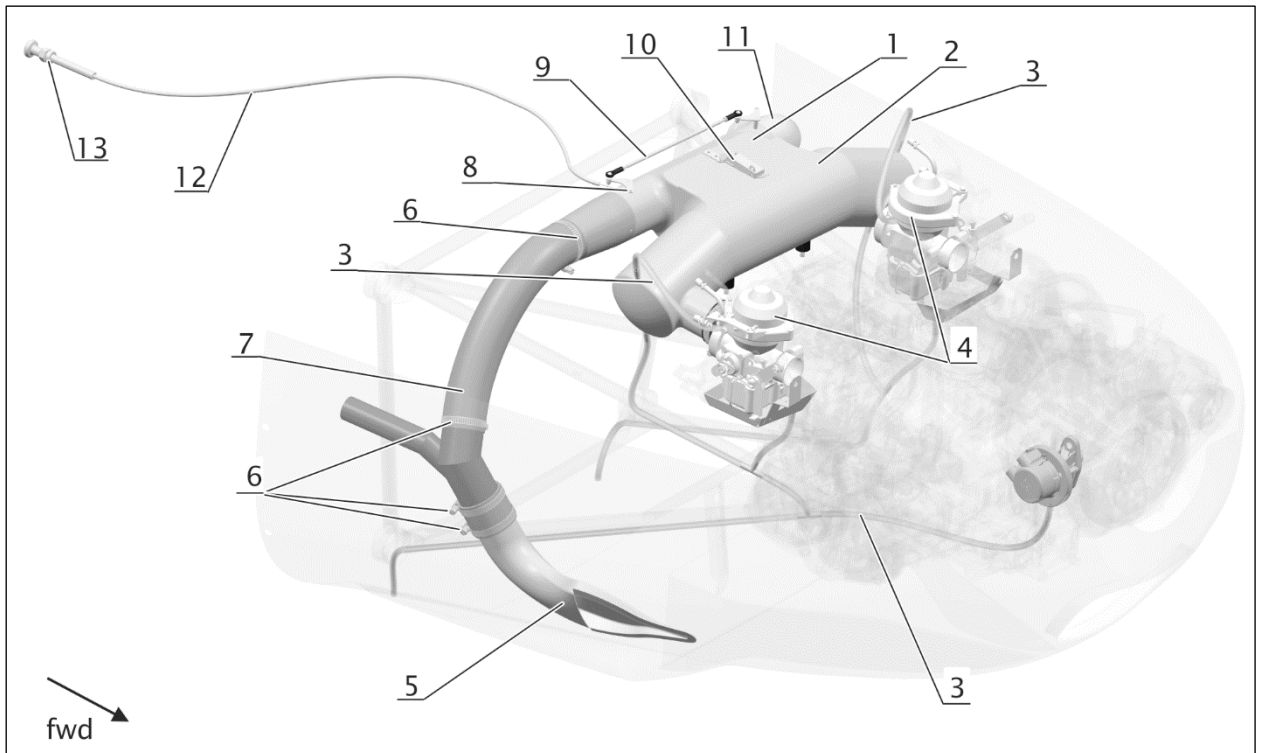

Fig. 4 *Removal/Installation of Air Intake System*
Engine air inlet system ensures supply of sufficient air volume to the engine. Air is supplied to the engine through the NACA inlet (5, Figure 4), the air filter and the airbox (1, 2). Heated air (11) from the heat exchanger, which is attached to the muffler is controlled by flap on the firewall. The heating control flap is controlled by CARB HEAT knob (13) on the instrument panel.
See Fig. 4.
see Fig. 4.